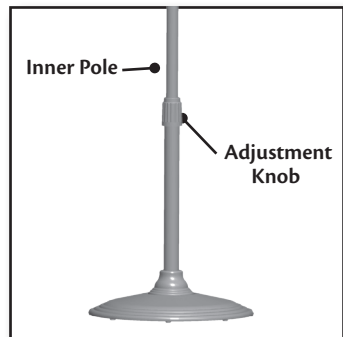

Figure 9
5. Grasp the telescoping pole firmly and twist the adjustment knob counter clockwise to loosen. Figure 9.
6. Raise the inner pole to maximum height and tighten the adjustment knob by twisting clockwise until secure. Figure 9.